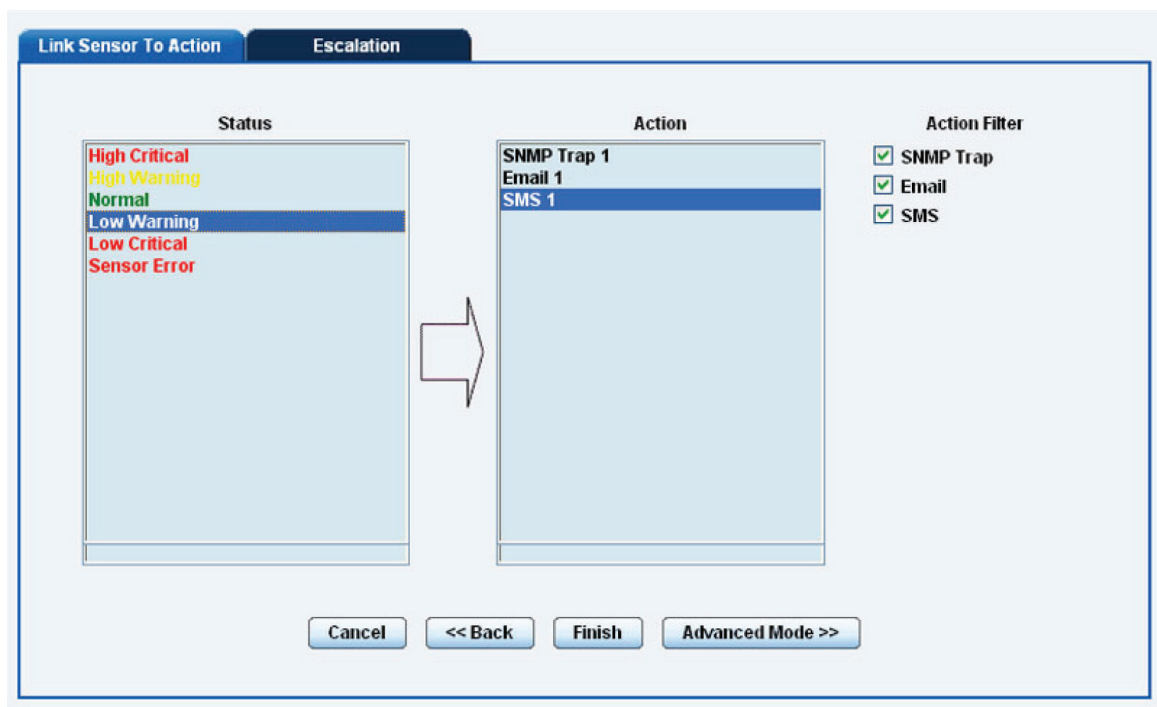

Figure 4-29. Link sensor to action screen.
11. This time we will use this notification for a low warning. Then select the notification name we assigned, in this case we chose "SMS 1." Click "Finish" to finalize this. (See Figure 4-29.)